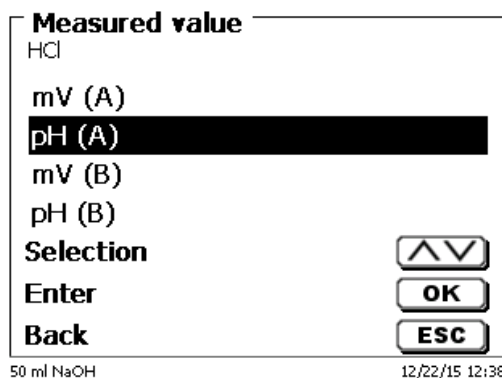

Fig. 145
The measurement speed and the titration end differ again as a function of the respective titration mode. The «**Measured value**» is the first selection to be made, e.g. «pH (A)» (Fig. 145).